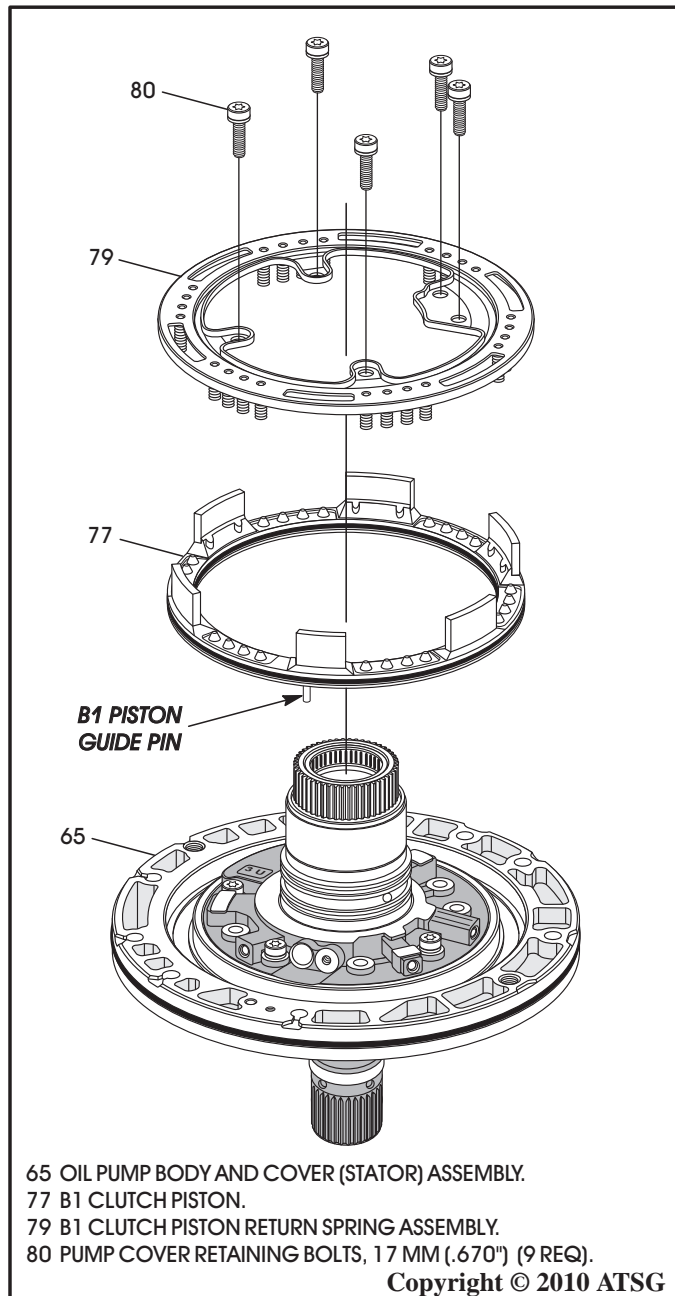

Figure 161
14. Install the B1 clutch apply piston in oil pump body, as shown in Figure 161.
15. Install B1 clutch piston return spring assembly, as shown in Figure 161, and install remaining five pump cover to pump body bolts.